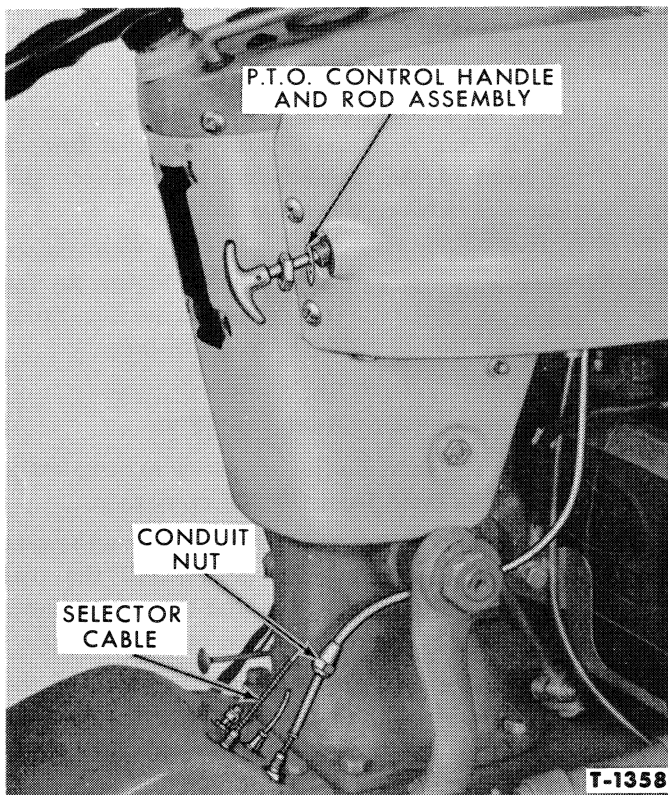

Figure 81—Removing the P.T.O. Control Assembly—Models 71 and 81
3. Move the selector lever upward to tenth speed, and disconnect the upper selector cable from the lower cable. Disconnect the selector lamp wire, at the connector as shown in Figure 81. The selector assembly can now be removed from the tractor.
4. On Model 71 and 81 transmissions, it will also be necessary to pull the P.T.O. control handle all the way out and completely loosen the conduit nut that attaches the P.T.O. cable conduit to the transmission cover, as shown in Figure 81, being careful not to let the lower nut turn. After the jam nut, shown in Figure 81, has been loosened, the control unit can be turned clockwise to thread the flexible cable out of the P.T.O. connector in the transmission. Turn the control unit and maintain a slight pull on the exposed cable just above the cover until the cable comes out of the cover.